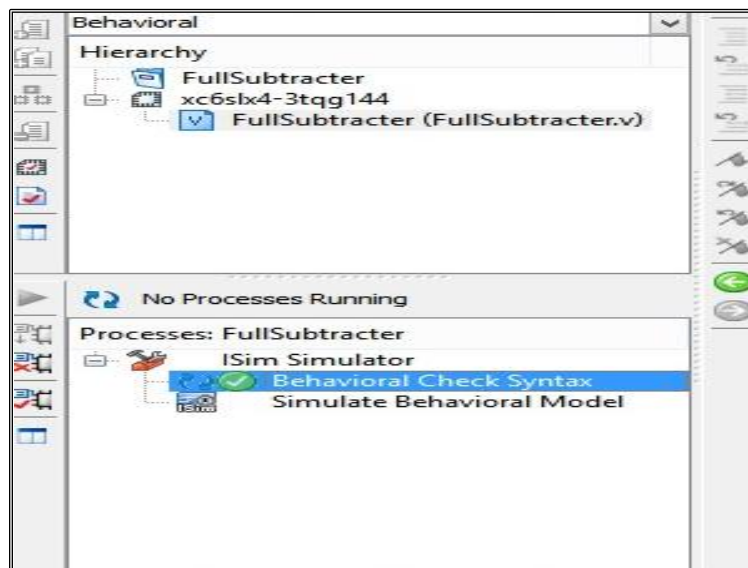

Fig 4.8: Behavioral Check Syntax
10. After writing the code next step is to check the syntax and functionality of the design. For this, select **Simulation** Button in the Hierarchy window on the left pane (Fig 4.8).